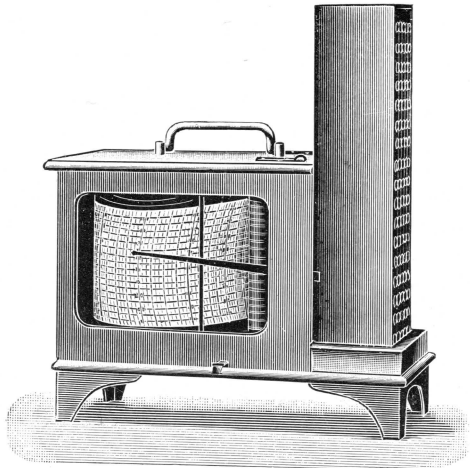

Fig. 18
**Hygrograph.** (Fig. 18.)
**Hydrograph.** (Fig. 18.)
*Hydrographe.* (Fig. 18.)